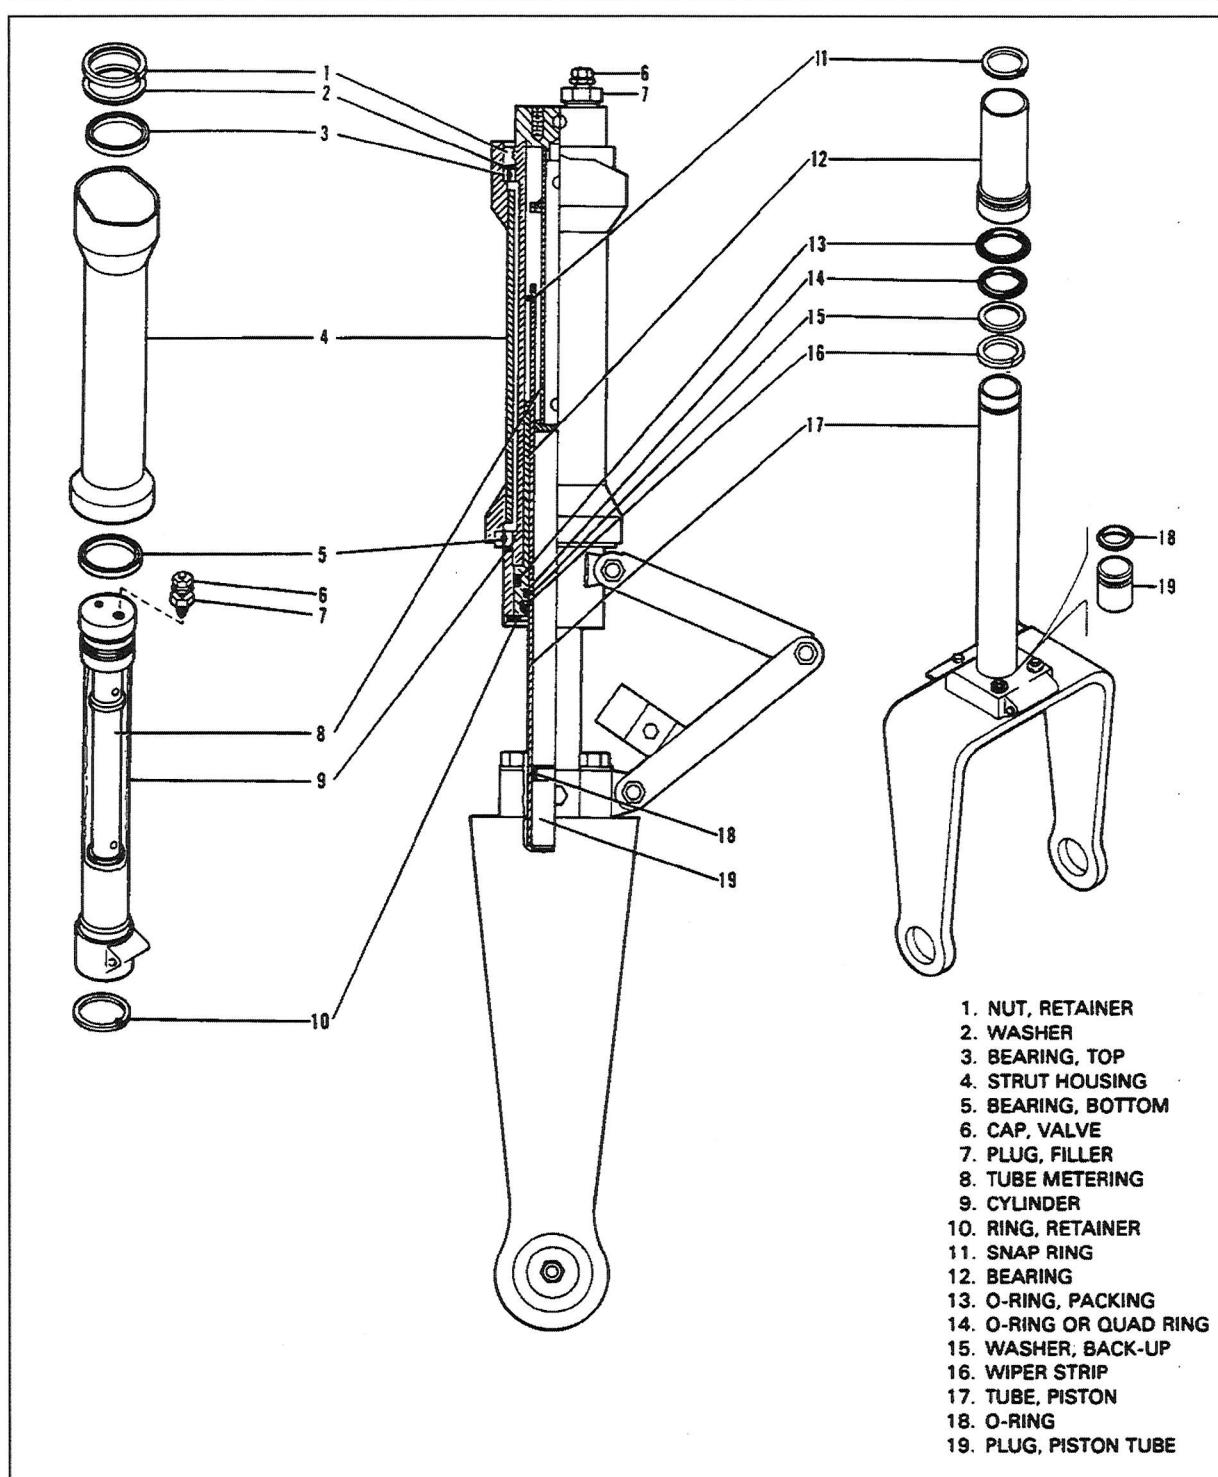

Figure 32-4. Nose Gear Oleo Strut Assembly
**NOSE GEAR****A. DISASSEMBLY OF NOSE GEAR OLEO (Refer to Figure 32-4.)****—NOTE—**
**C. NOSE GEAR OIL ORIFICE RETAINER RING INSTALLATION (Refer to Figures 32-4 and 32-6.)**
**D. ASSEMBLY OF NOSE GEAR OLEO (Refer to Figure 32-4.)**